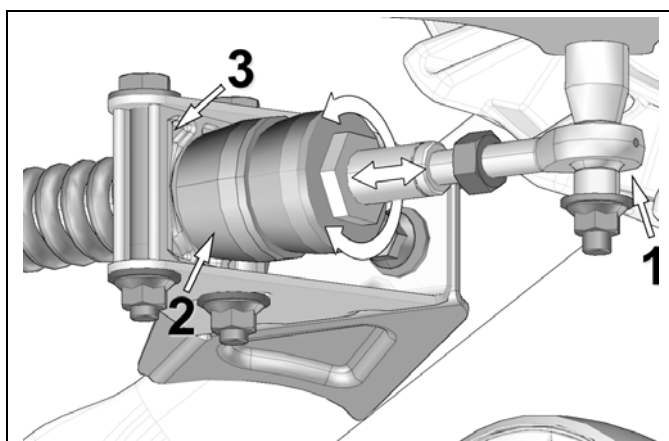

Figure 19
- Turn stabilizing arm nut to adjust length of rod end (1) and get rubber cone (2) to apply light pressure on anti-rotation retainer (3). See Figure 19.